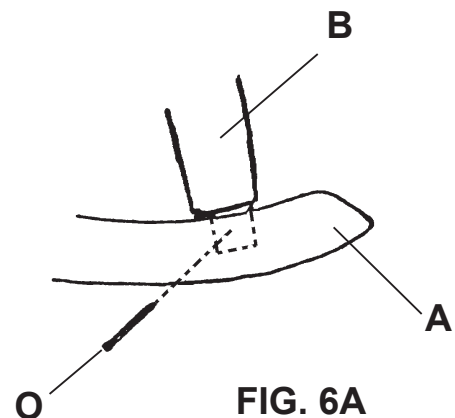

FIG. 6A
With the rocker laying on its side, hammer a Brad (O) through the inner edge of the rocker runners into the leg chucks. See FIGURE 6A.